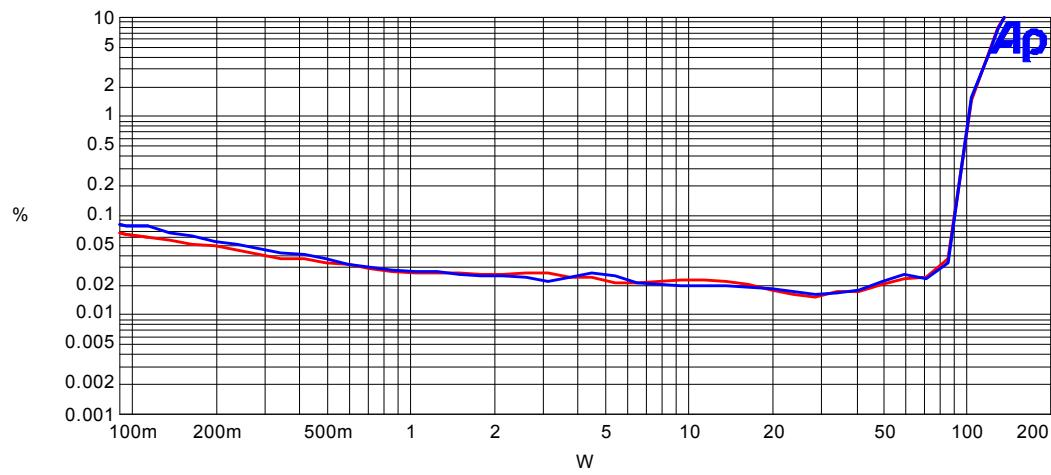

Figure 7
15. For all subsequent tests as shown on the Audio Precision graphs below (Figure 3- Figure7), the measurements are taken across J3 and J4 with an AES-17 Filter. Observe that a $1 V_{RMS}$ input generates an output around THD+N=1% power level.